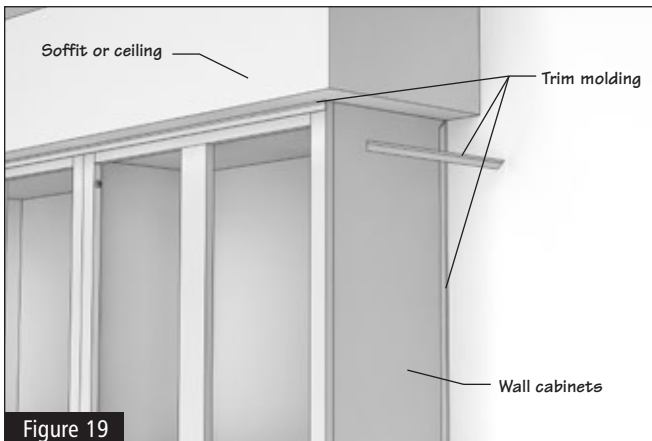

Figure 19
- 7.1** Trim molding is used to trim out cabinetry where cabinets meet an adjacent wall, soffit or ceiling. Carefully measure and cut to proper length. Use small finish nails or a pin nailer to attach where cabinet and wall meet. (Figure 19)